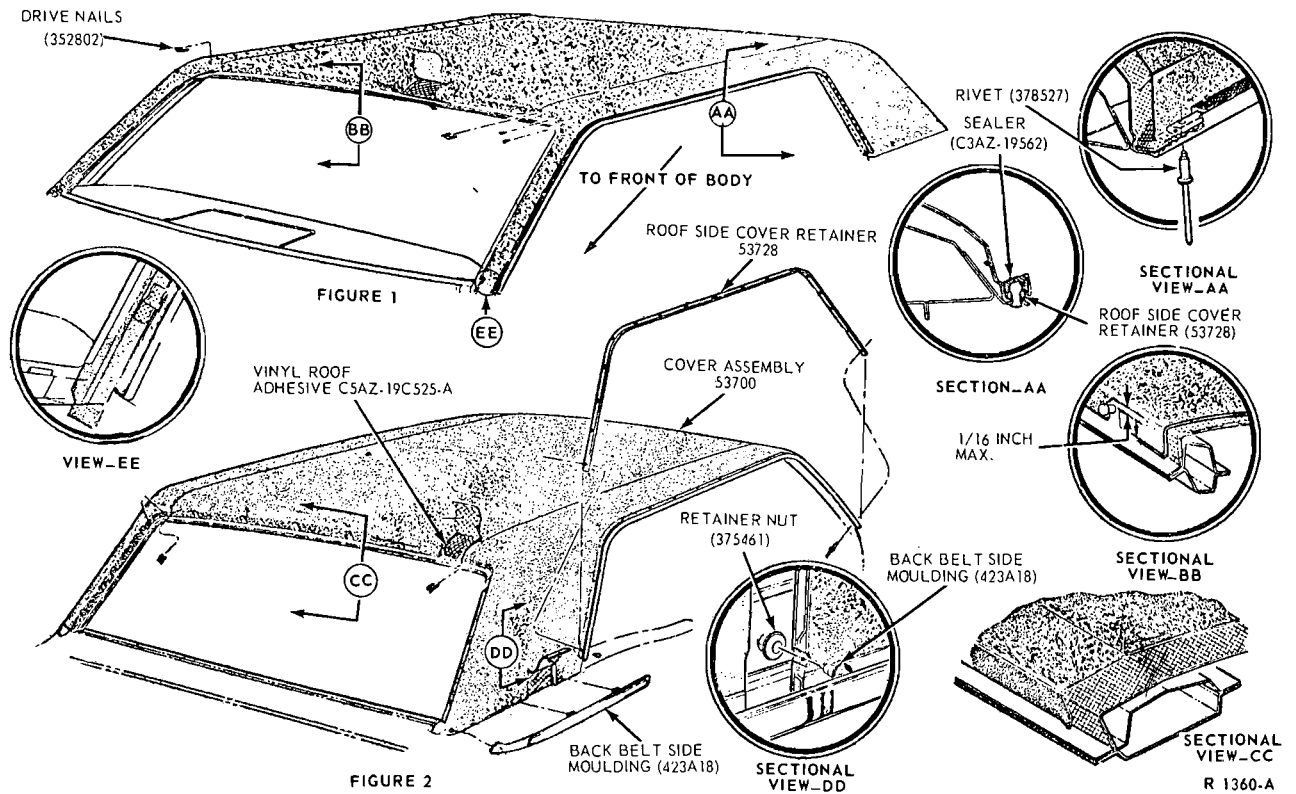

FIG. 23—Outside Roof Cover Installation—Mustang
6. Remove the retaining nuts from the right and left hand back side belt mouldings and remove the mouldings. Also the back belt moulding below the rear window on the Cougar (Figs. 23 and 24).